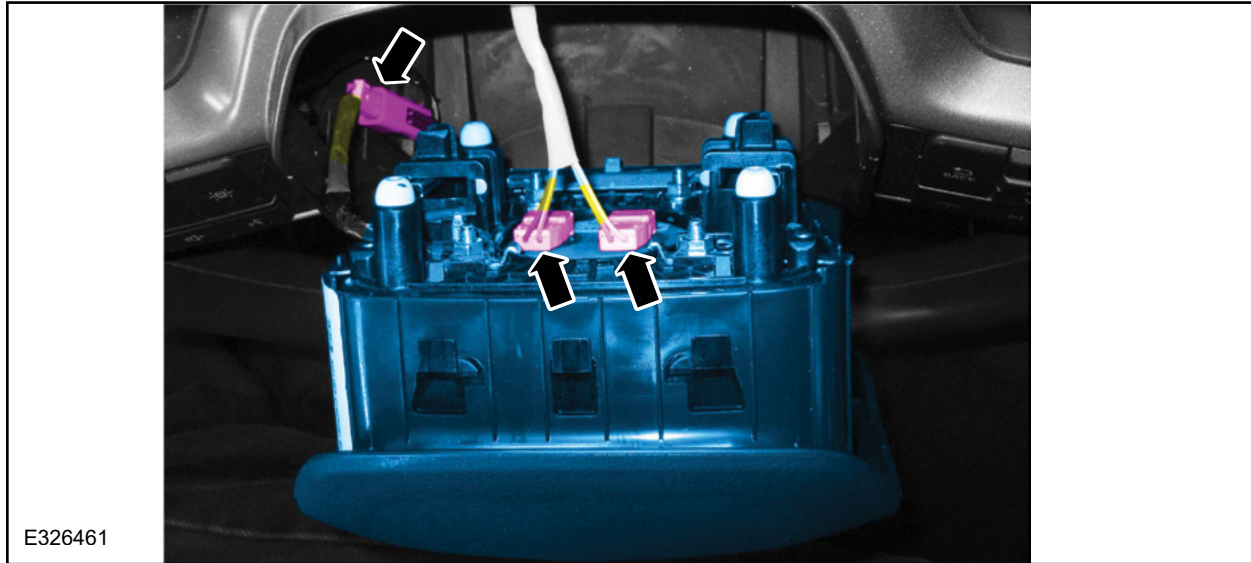

FIGURE 10
11. Disconnect the driver airbag electrical connectors and remove the driver airbag. See Figure 10.
2. Connect the driver airbag electrical connectors. See Figure 10.